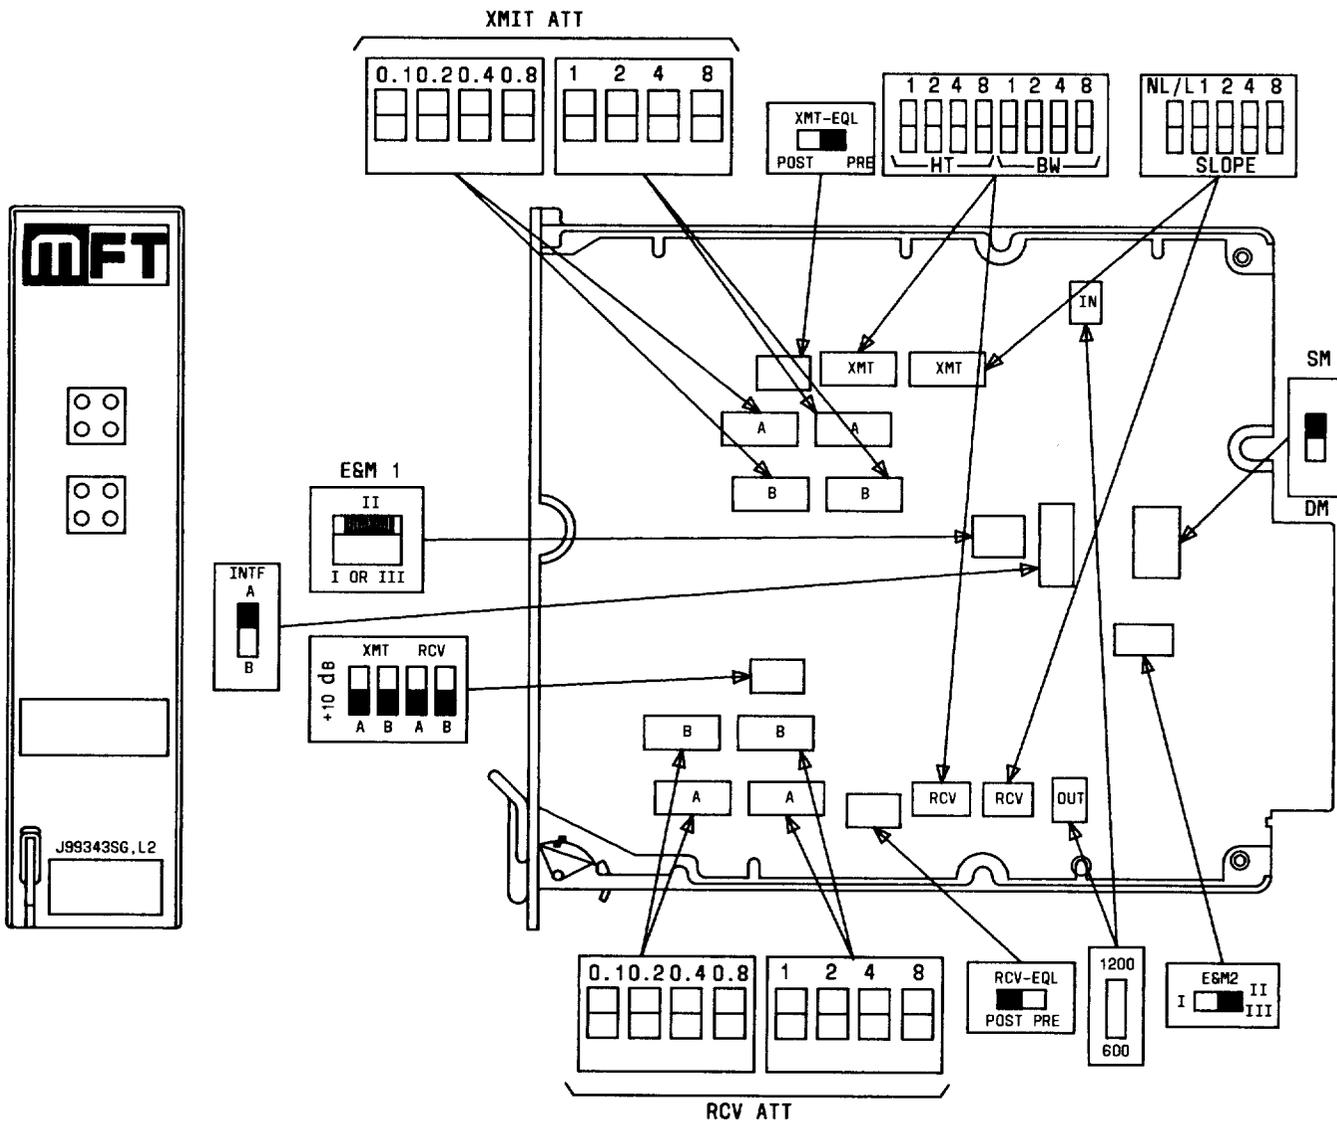

Fig. 2.1—Component Layout of the J99343SG, L2 CFU
**2.003** Add new Fig. 2.1 shown in this addendum.